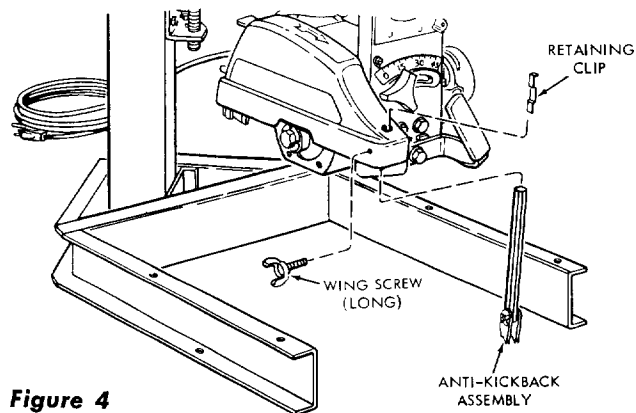
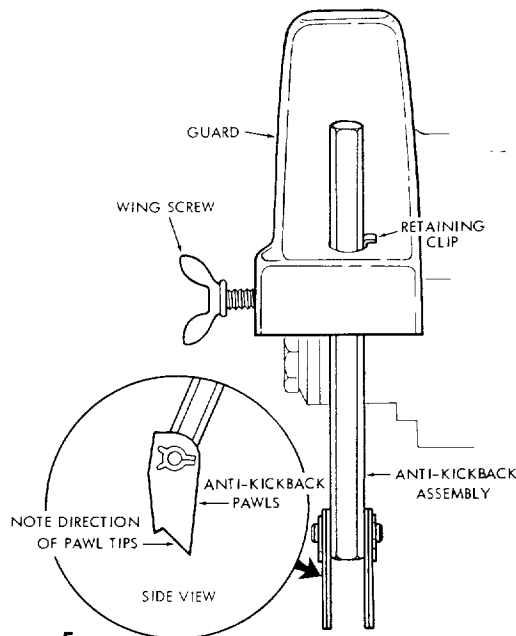

Figure 4
Figure 5
a. Insert the retaining clip into the anti-kickback hole in the guard, positioning it as shown in figure 4. This clip fits between the anti-kickback rod and bore of guard to prevent the anti-kickback assembly from "dropping" through the bore when the wing screw is loosened. (See figure 5.)
b. Insert anti-kickback rod into the hole from the bottom (figure 4) and tighten the wing screw. Make sure the
sharpened tips on anti-kickback pawls are positioned as shown in figure 5. The anti-kickback pawls are to be adjusted to proper height when ripping.